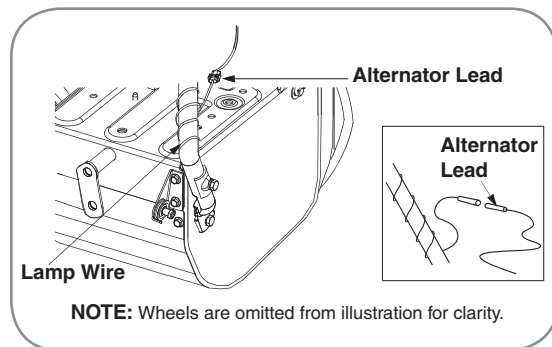

Figure 3-8
- Wrap the wire from the head lamp down the right handle until the wire can be plugged into the alternator lead wire under the fuel tank. See Figure 3-8.